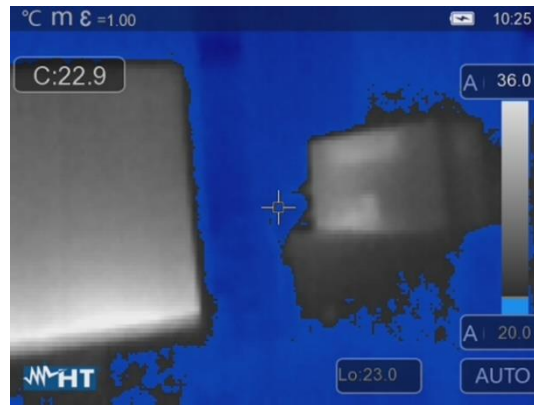

Fig. 41: Selection of isotherm line Alarm low Temp.
7. Touch the “Lo” field at the bottom of the display and use the arrow keys < or > to set the value of the **minimum** temperature threshold below which the instrument shows image spots in blue color, and the remaining spots in grey color (see Fig. 41).